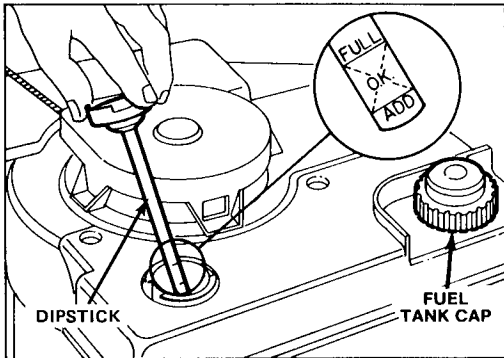
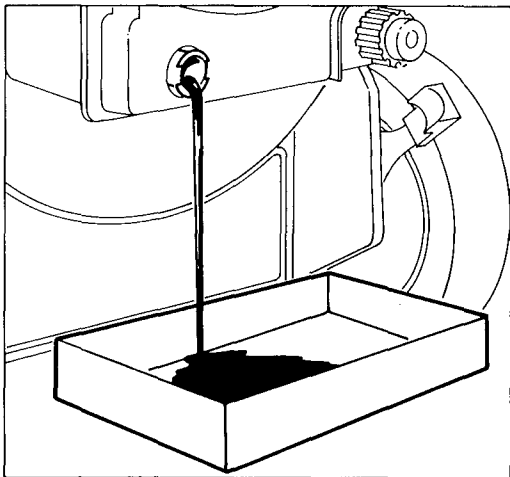

Figure 4
Figure 14
3. Wipe dipstick and insert it into filler neck. Rotate cap clockwise. Then remove dipstick and check level of oil (Fig. 4). If level is low add only enough oil to raise level to FULL mark on dipstick. **DO NOT FILL ABOVE FULL MARK BECAUSE ENGINE COULD BE DAMAGED WHEN STARTED.**
1. Clean around fuel tank cap and remove cap from tank (Fig. 4). Using unleaded gasoline, fill fuel tank to within 1/2 inch (13 mm) from top of tank.
3. Remove dipstick (Fig. 4). Tip mower forward and empty all oil into drain pan (Fig. 14). Tip mower down and up a few times to ensure oil drains completely.